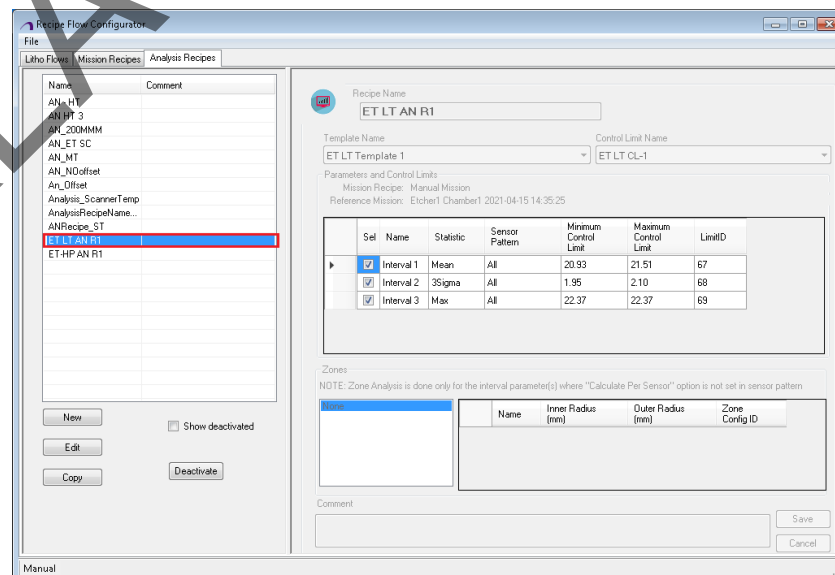

Figure 6-11 To create new analysis recipe
7. You can see the newly created analysis recipe in the **Analysis Recipes** list, as shown in Figure 6-11.